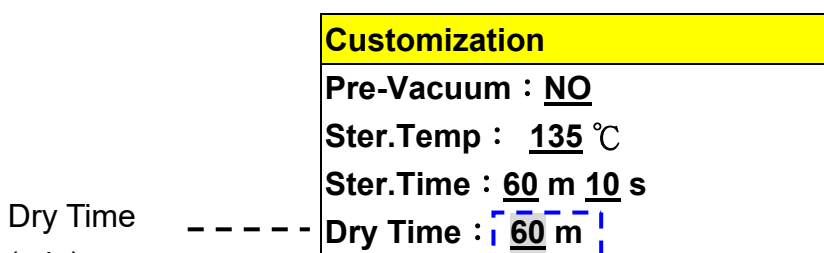

Figure 91
- H. Press  or  button to move the cursor as shown in Figure 91
- Press  button to store dry time parameter as shown in Figure 91.